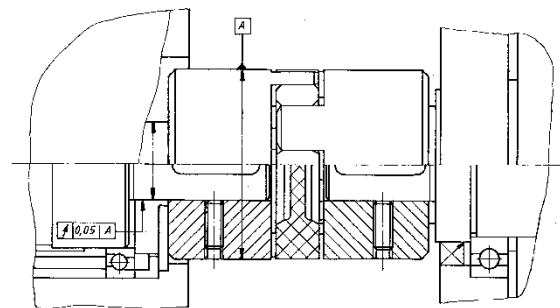
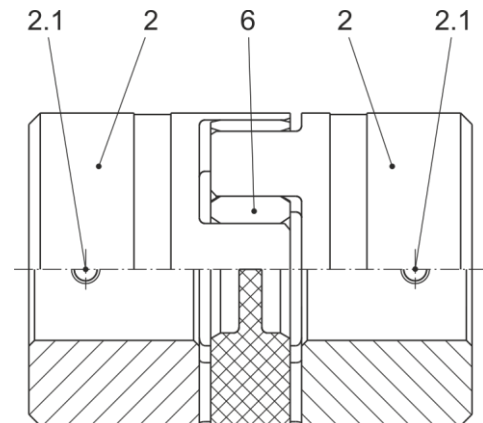

Fig. 5
Fig. 11
- ❑ The recommended bore tolerances are to be produced using the position and tolerance width as references; at the same time, please keep to the shaft run-out tolerance of 0.05 mm to "A" (see Fig. 5).
Any subsequent screwing together and special housings are not necessary (see Installation Examples figures 5, 6 and 15).
Installation of the Coupling Hubs with Keyway (Item 2 / Fig. 11)
- 1) Mount the coupling hubs (2) onto both shaft ends using a suitable device and bring them into the correct position.
- 2) Secure the hubs (2) axially. Axial securement takes place via a set screw (adjusting screw Item 2.1, see Fig. 11 and installation example Fig. 5 / page 14).